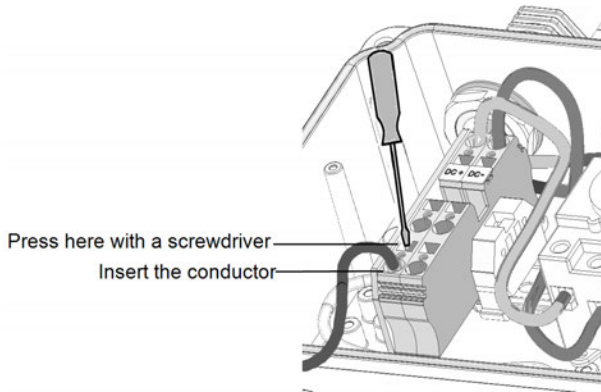

Figure 25: DC Spring-clamp terminal example - 9kW, 10kW and 20kW inverters
- a. Use a standard flat-blade screwdriver to connect the wires to the spring-clamp terminals. The screwdriver blade should fit freely in the terminal opening. Too large a blade can crack the plastic housing. See *Figure 25*